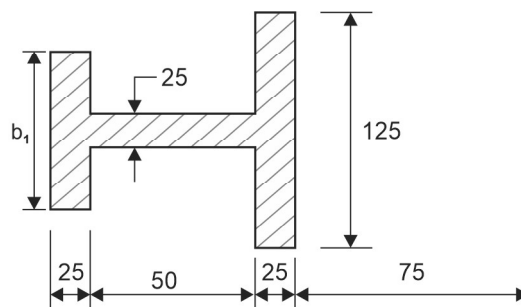

Fig. M1.31
55. Determine the value of b_1 of a unsymmetrical I-beam cross-section of a curved beam as shown in Fig. M1.31 such that the extreme fiber bending stresses are numerically equal. (12 Marks)